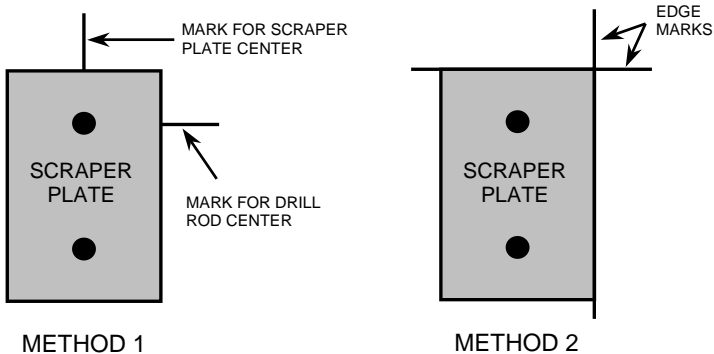

Figure 3-5. Marking the Test Area
- ✓ To ensure accurate placement of the gauge, before removing the scraper plate mark the test area using the drill rod as shown in Figure 3-5.